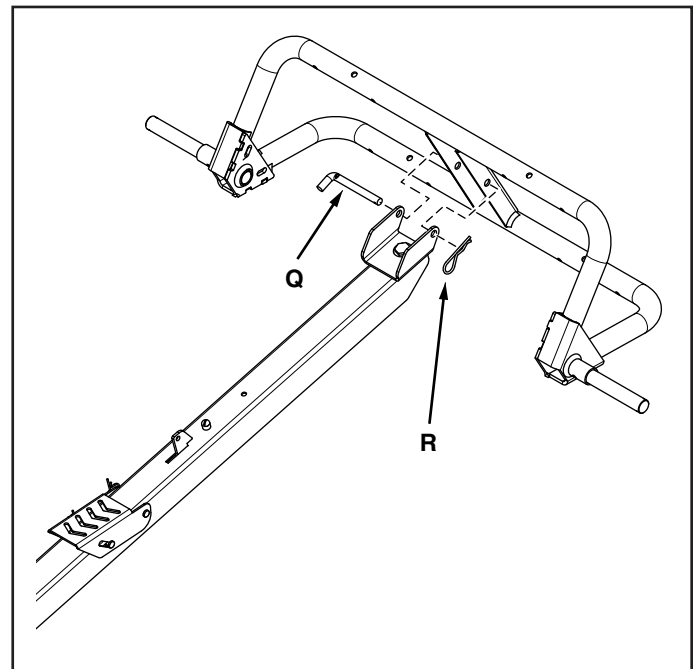

FIGURE 7
STEP 7: (SEE FIGURE 7)
1. Attach the tongue assembly to the wheel support using the channel pivot pin (Q) and a $\frac{5}{32}$ " hair cotter pin (R).